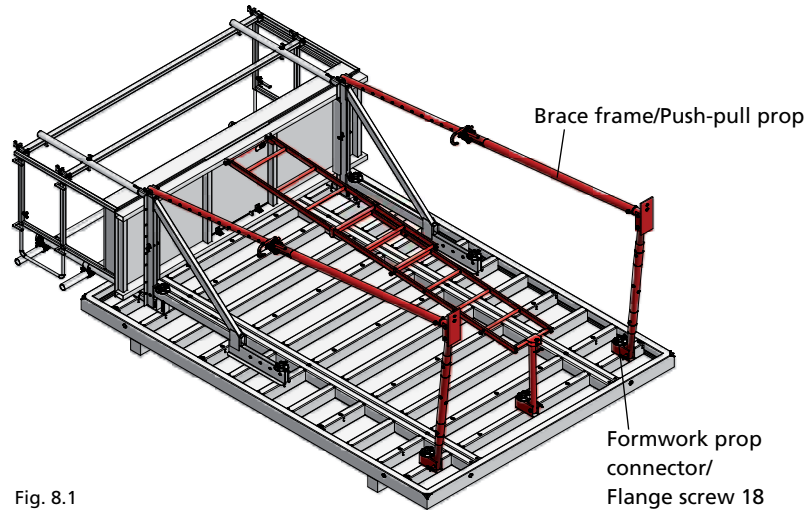

Fig. 8.1
9. Attach the push-pull props (of the brace frame) to the scaffolding brackets SB and the formwork prop connectors with flange screws 18 to the multi-function profile at the bottom of the formwork panel (Fig. 8.1).